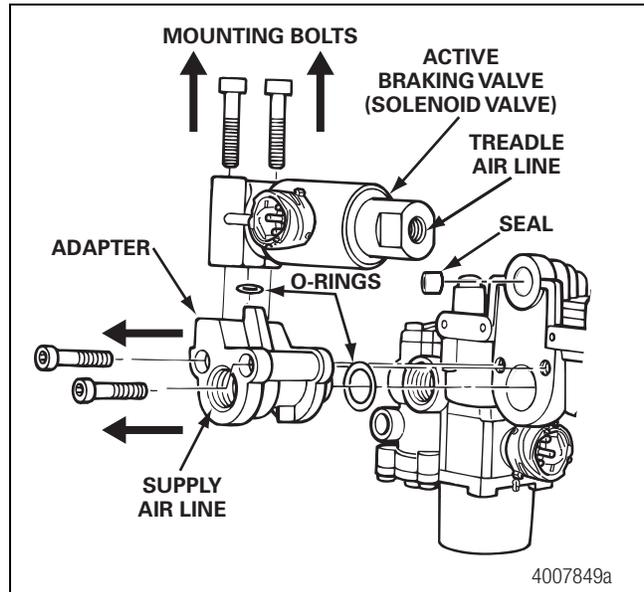

Figure 4.9
8. Remove the adapter piece, seal and O-rings from the valve package. Figure 4.9.